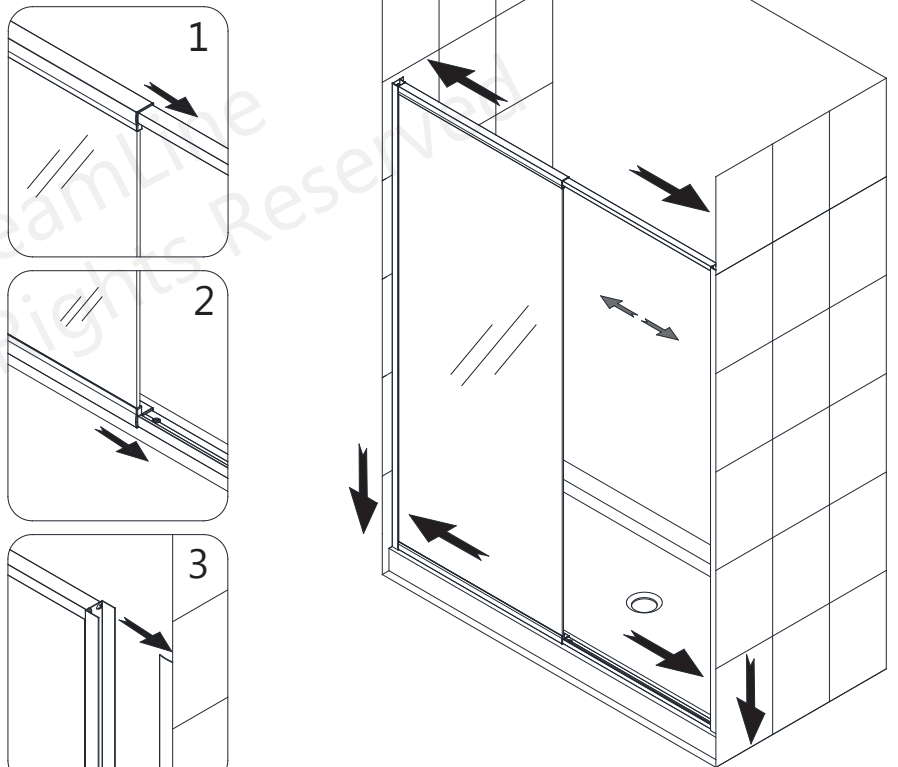

Fig 12
12. Extend the **Expandable Rails** evenly so that the **Magnetic Strike Profile (#12)** goes into the opposite **Wall Profile (#01)** on the door-side of the opening. **(Fig 12)**